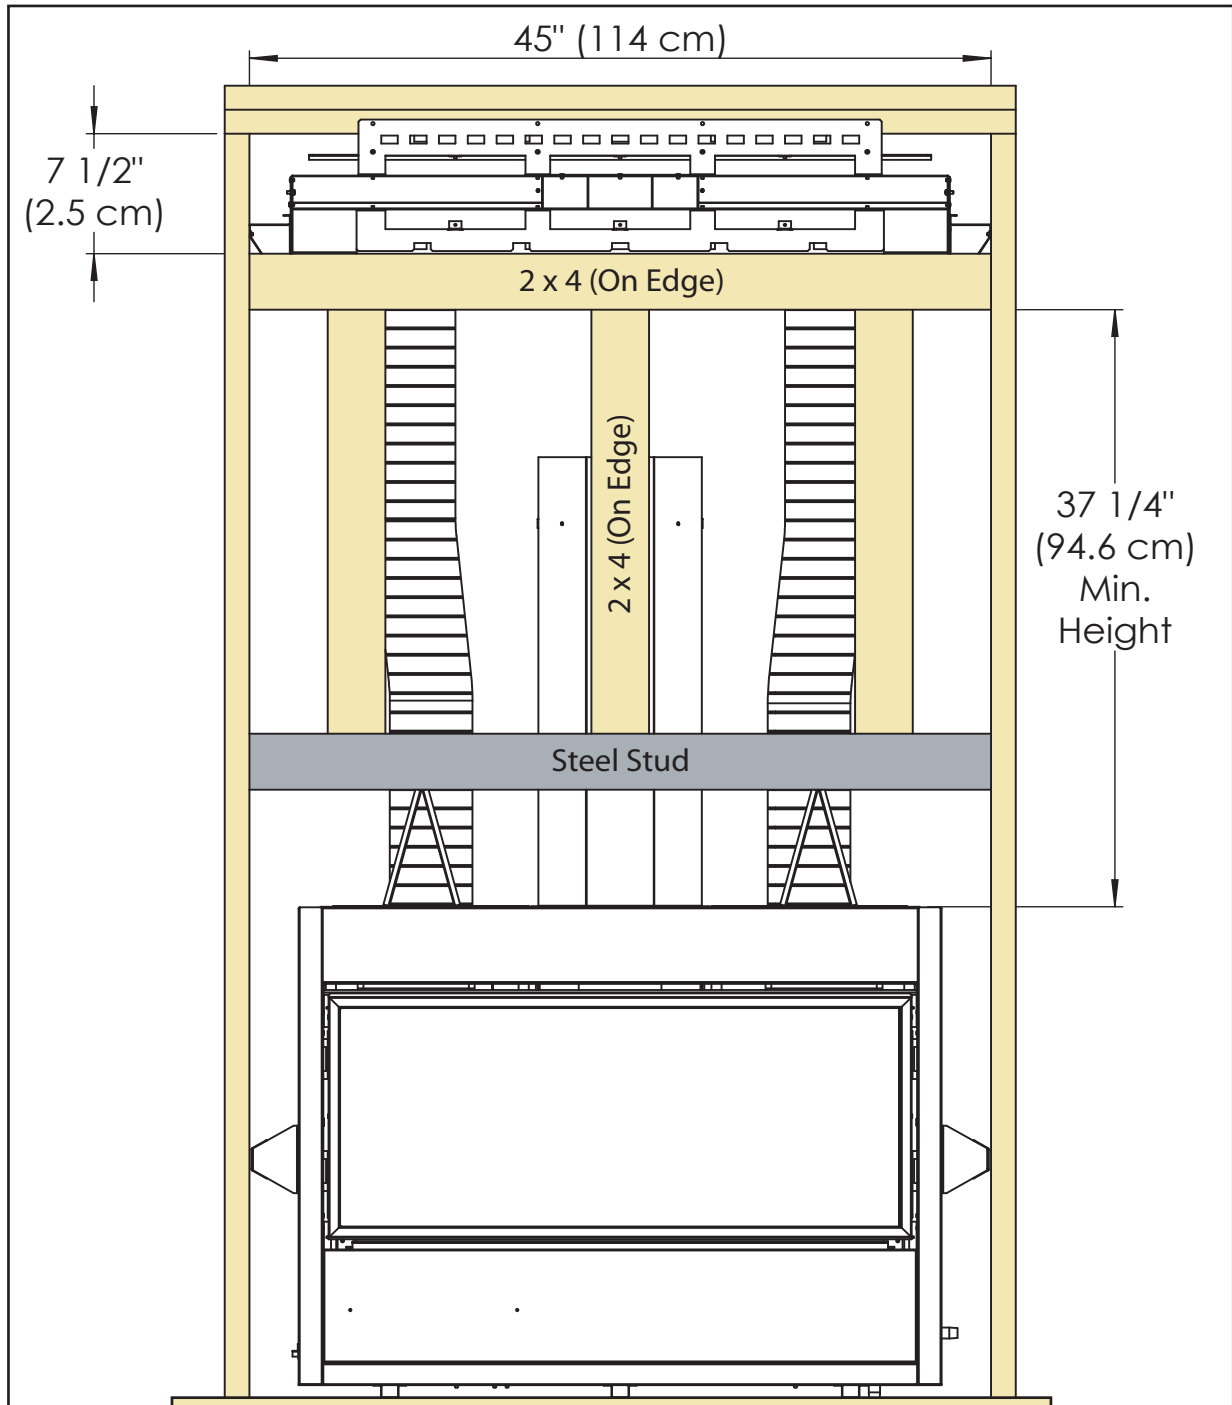
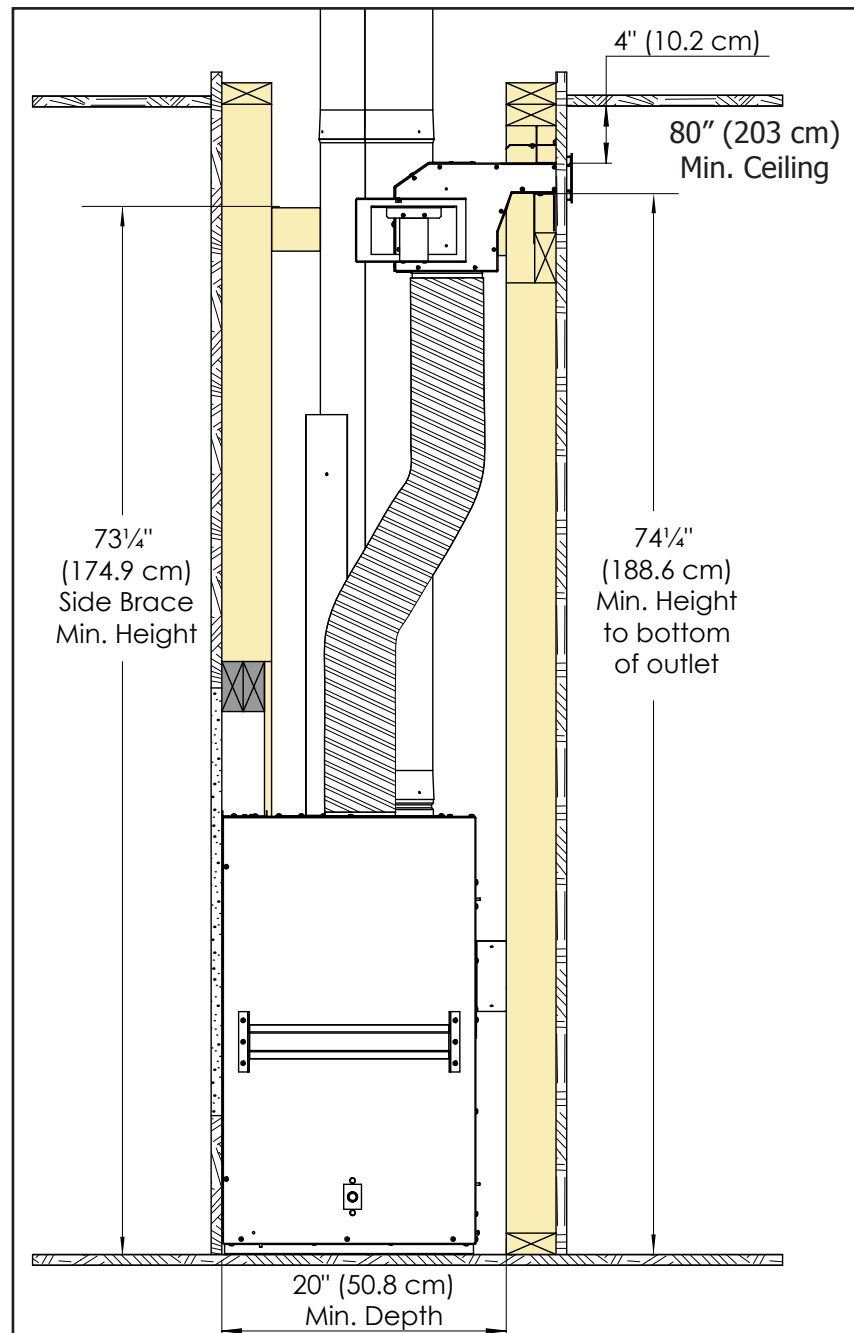

Figure 3. C34 - HDK Framing & Rough Opening
Figure 6. HDK - Adjoining Room
Refer to Figures 3 & 4 for the minimum allowable framing and rough opening of the HDK.
The HDK has been designed to allow for installations where a vertical run of vent is required without having to jog the vent pipe around the HDK (see Figure 6). The horizontal vent shield supplied with the fireplace is not required (see Owner's Manual) when vertically venting and the vent pipe can simply be run straight up through the cut out in the HDK.
The HDK may also be installed to discharge into another room for a cleaner installation on the fireplace side of the wall (see Figure 6). As stated in the previous section, the vent pipe can be ran straight up through the cut out in the HDK. The minimum clearances stated in Figure 6 must be maintained as well as the minimum distance between the fireplace and the HDK (see figures 3 & 4).
Step 1: Frame in the rough opening for the HDK as shown in Figures 3 & 4 (Pages 3,4) in the desired location following all required clearances as stated in the FRAMING & CLEARANCES section.
Step 3: Insert the assembled HDK into the framed rough opening by rotating it down slightly to allow the outlet and standoffs to pass through. When installed correctly the front flange of the top standoff should be up against the front face of the top stud (Figure 3 & 18).
Step 4: Confirm the HDK is centered within the rough opening and secure in place using screws or nails through the four (4) holes along the top edge of the top standoff.